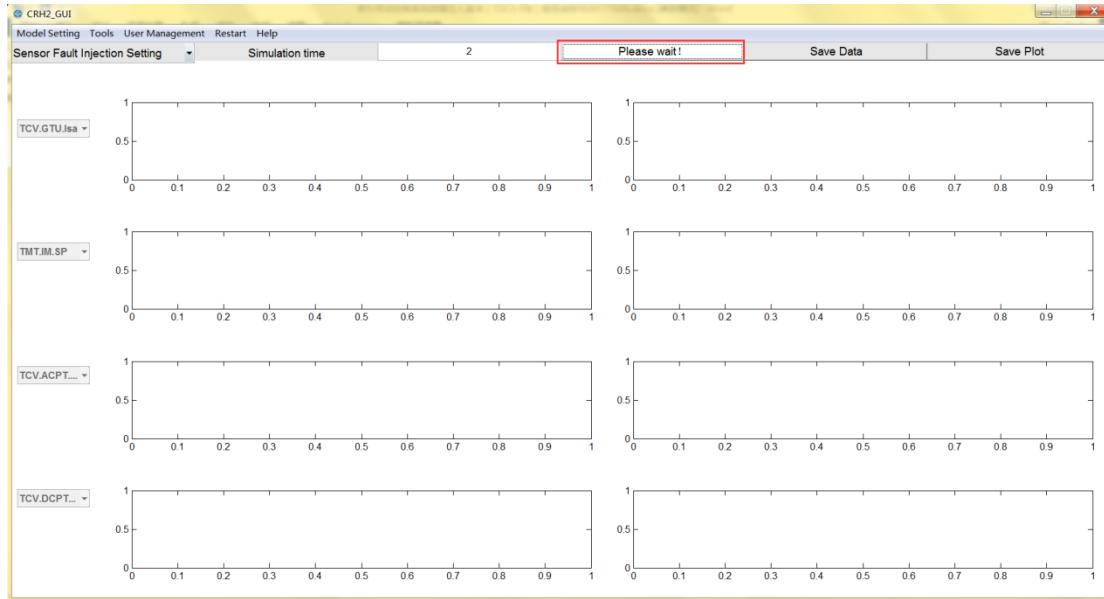

Fig. 36 Start of simulation
- 3) After setting the simulation duration, click the ‘Start Simulation’ button to start the simulation of the selected fault injection mode. Before the end of the simulation, the ‘Start Simulation’ button changes to ‘Please Wait!’ as shown in Fig. 36.